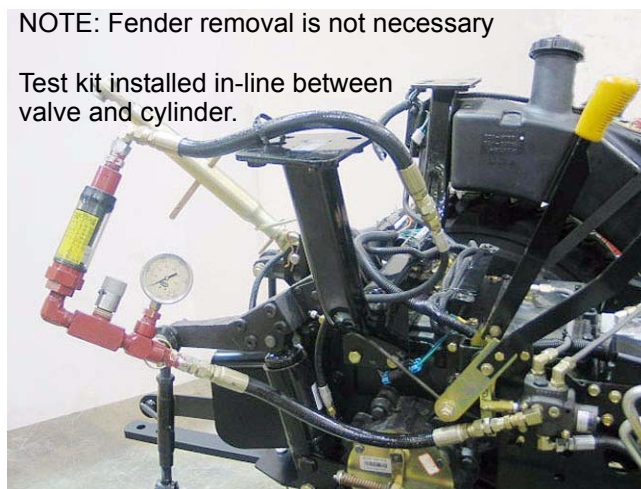

Figure 8.25
- 8.25. Install the test kit between the control valve and the lift cylinder. See Figure 8.25.